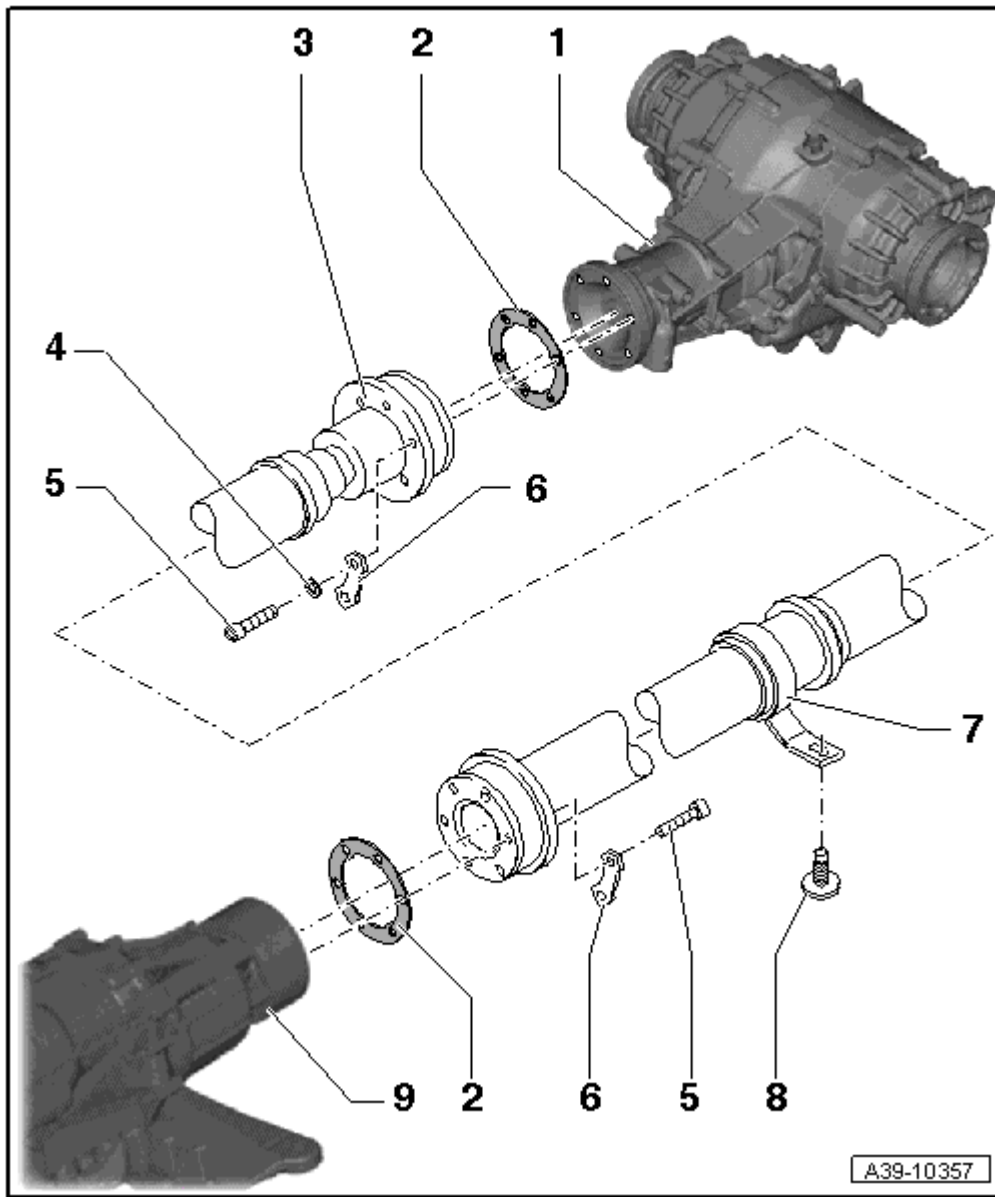

Fig. 24: Driveshaft Bolted On Transmission-Side Overview
- Possibly located between an internal multi-point bolt, refer to item 5 in **Fig. 24** and a backing plate, refer to item 6 in **Fig. 24** on the rear final drive